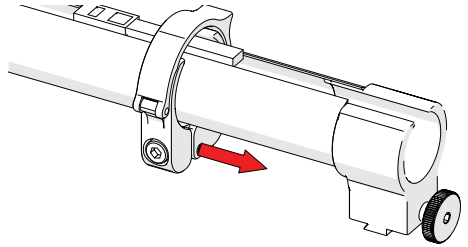

Fig. 100 - Slide clamp onto mount
3. Slide the clamp over the tube and cable management dovetail mount pinching the tube in between (Fig. 100).